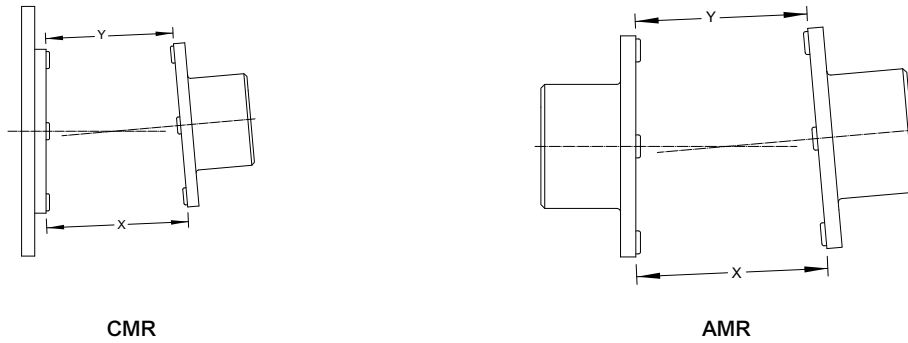

Figure 8 - Angular Misalignment "X-Y"
- 8.7. The “Angular Misalignment” value is the maximum difference between the measurements X and Y taken at opposite ends of the hub flanges, as shown in Figure 8.